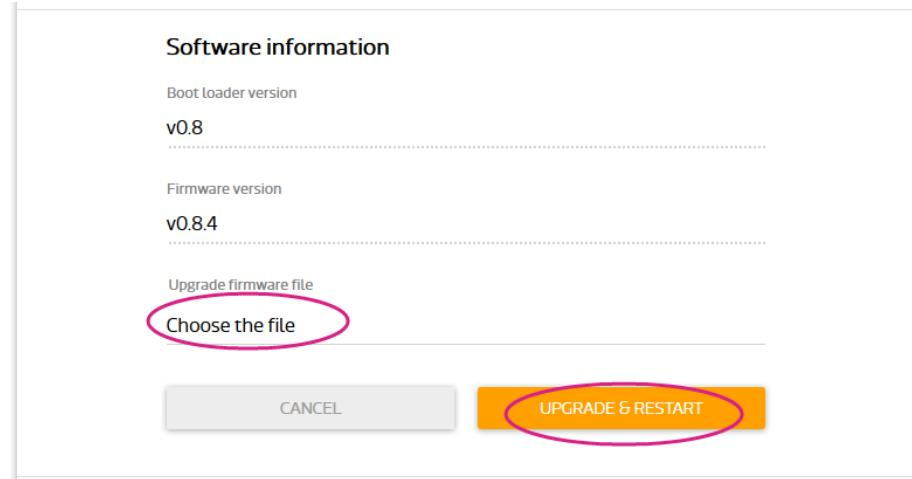

Figure 25 Selecting firmware file
- 3) Click **Choose the file** and select `lks7688.img` file. Click **UPGRADE & RESTART** as shown in Figure 25.